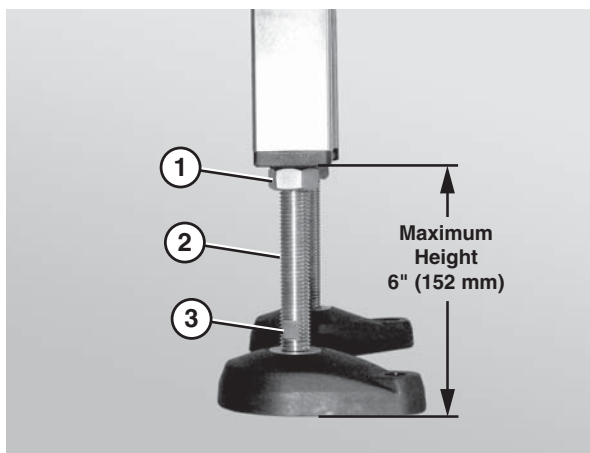

Figure 19
1. Loosen the nut (**Figure 19, item 1**) on the foot stem (**Figure 19, item 2**).
2. Rotate the foot stem using an adjustable wrench on the foot stem flats (**Figure 19, item 3**) to raise or lower the stand to the desired height.
5. Tighten the nut (**Figure 19, item 1**) on the foot stem (**Figure 19, item 2**) to secure each foot assembly.